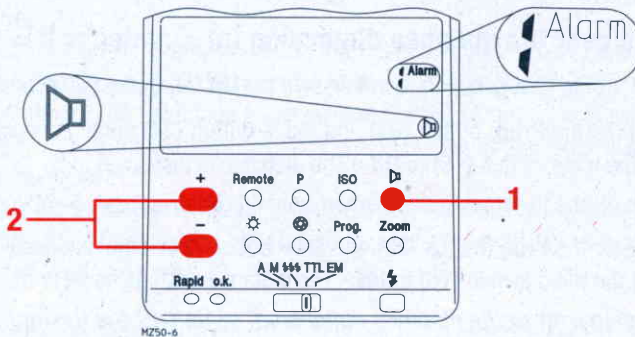

Fig. 25: Adjusting the alarm functions
- Hold down the Remote (**STO**) (**22**) button (approx. 3 seconds) until the LC display becomes dark. A short brief audio signal is sounded when the buzzer is active (see fig. 25, page 37), after which the settings are stored.